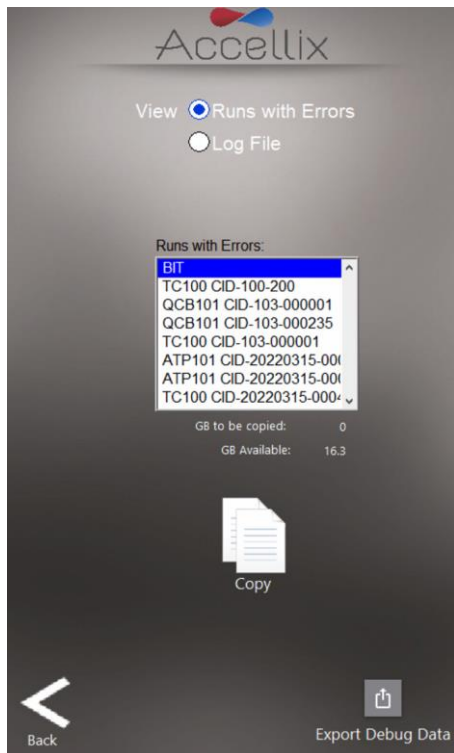

Figure 23: Copy Test Runs with Errors screen
1. If **View Runs with Errors** is selected, files related to test runs for which errors were generated can be selected and copied (Figure 23). Individual cartridge data folders can be selected together by holding down the Control Key on an attached keyboard while tapping an entry in the list. Tap the **Copy** Icon.